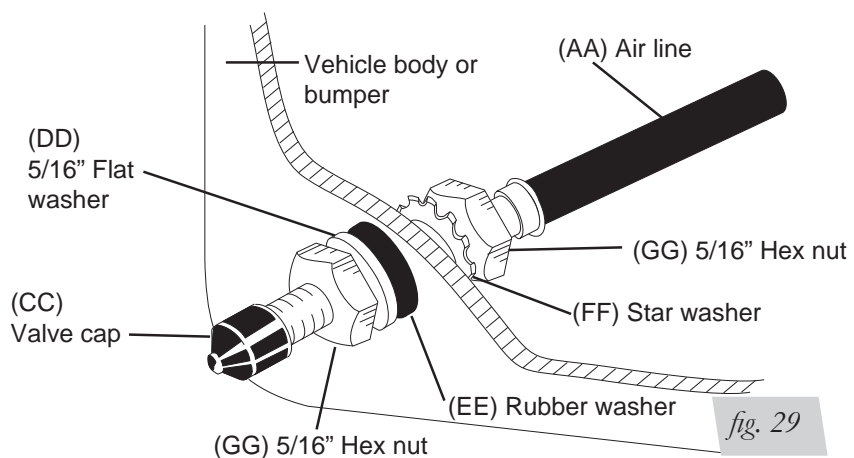

fig. 29
4. Place a 5/16" nut and star washer on the air valve. Leave enough of the inflation valve in front of the nut to extend through the hole and have room for the rubber washer, flat washer, and 5/16" nut and cap. There should be enough valve exposed after installation—approximately 1/2"—to easily apply a pressure gauge or an air chuck (Fig. 29).